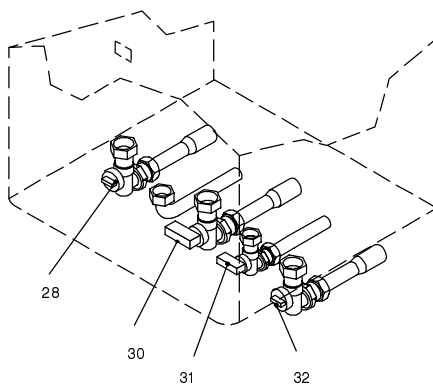

fig. 6.3
- 1 Turn off the dhw inlet cock (31 in fig. 6.3) and turn on the "utilities" cocks.
- 1 Turn off the c.h. cocks (28, 32 in fig. 6.3).